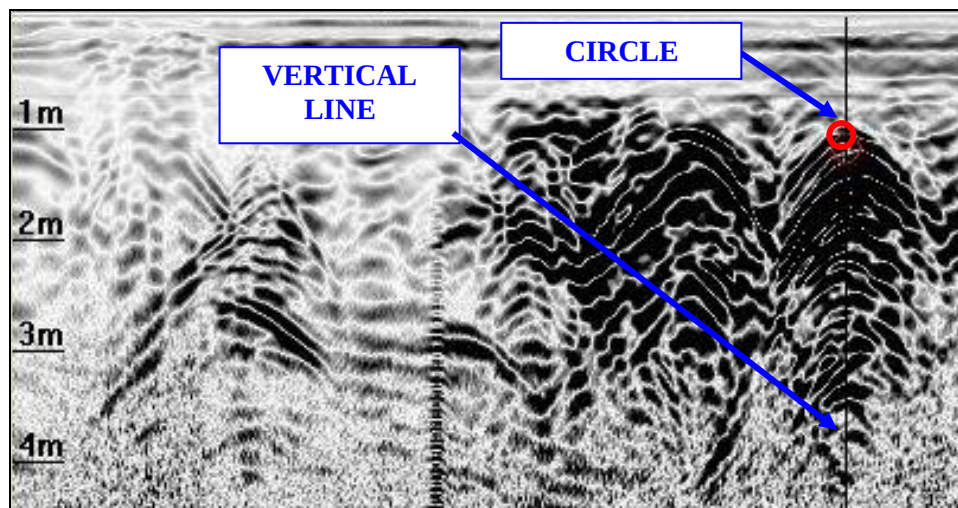

Fig. 5.24 – Insertion of a Marker during the review phase
- Press the **Review acquisition** button to review all the scans contained in the selected survey. The first radar map of the selected survey will appear, onto which further markers can be added if required as described previously. In addition, all previously identified hyperbolas will be marked with a circle and a vertical line (Fig. 5.24).
Further hyperbolas can be selected or previously inserted information can be reloaded using the mouse or the buttons on the lower tool bar. It is sufficient to click in correspondence to the vertical line shown in Fig. 5.24.